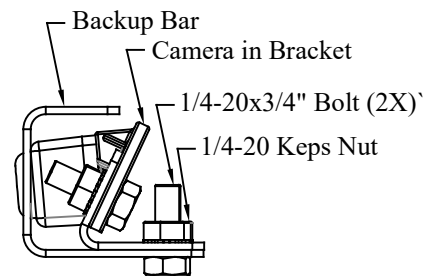

Figure 6: Backup camera in backup bar.
10. **Install** camera and sensor brackets into backup bar using the supplied 1/4-20 hex bolts and nuts (Figure 6).